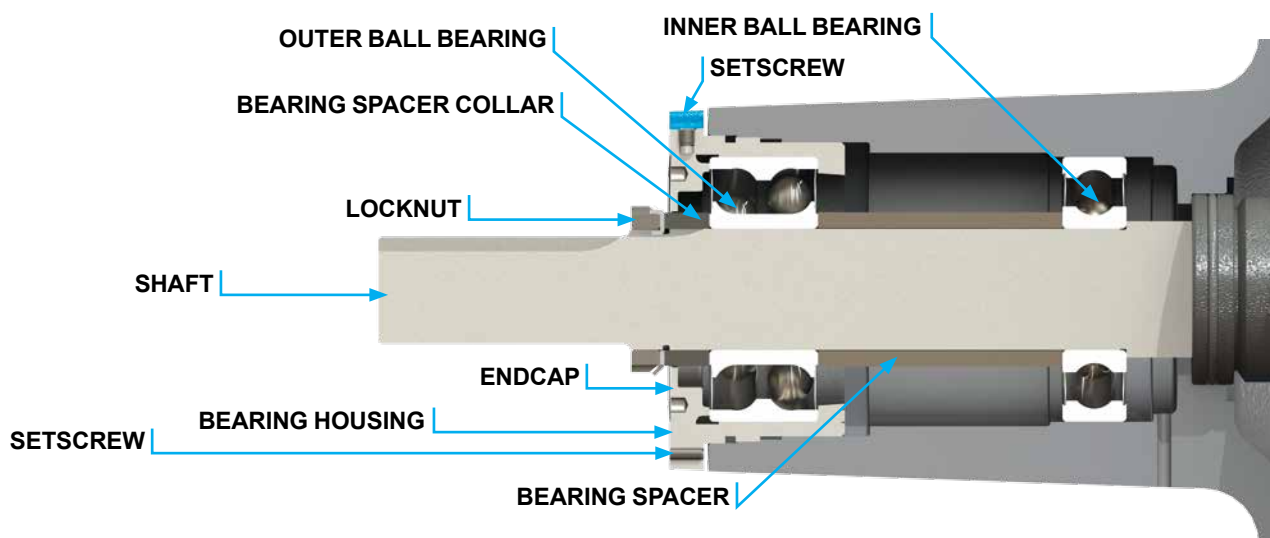

FIGURE 7 - THRUST BEARING ASSEMBLY Q AND QS SIZES
Q, QS: Remove the single row ball bearing from the casing. See **Figure 7**.
Loosen the two setscrews in the flange outside diameter. Rotate the end cap counterclockwise and remove. Remove the ball bearing. See **Figure 7**.
15. Install the ball bearing into the bearing housing. Install the bearing spacer collar in the end cap and turn the end cap into the bearing housing until tight against the bearing. Lock in place with two set screws in the flange of the bearing housing. See **Figure 7**.